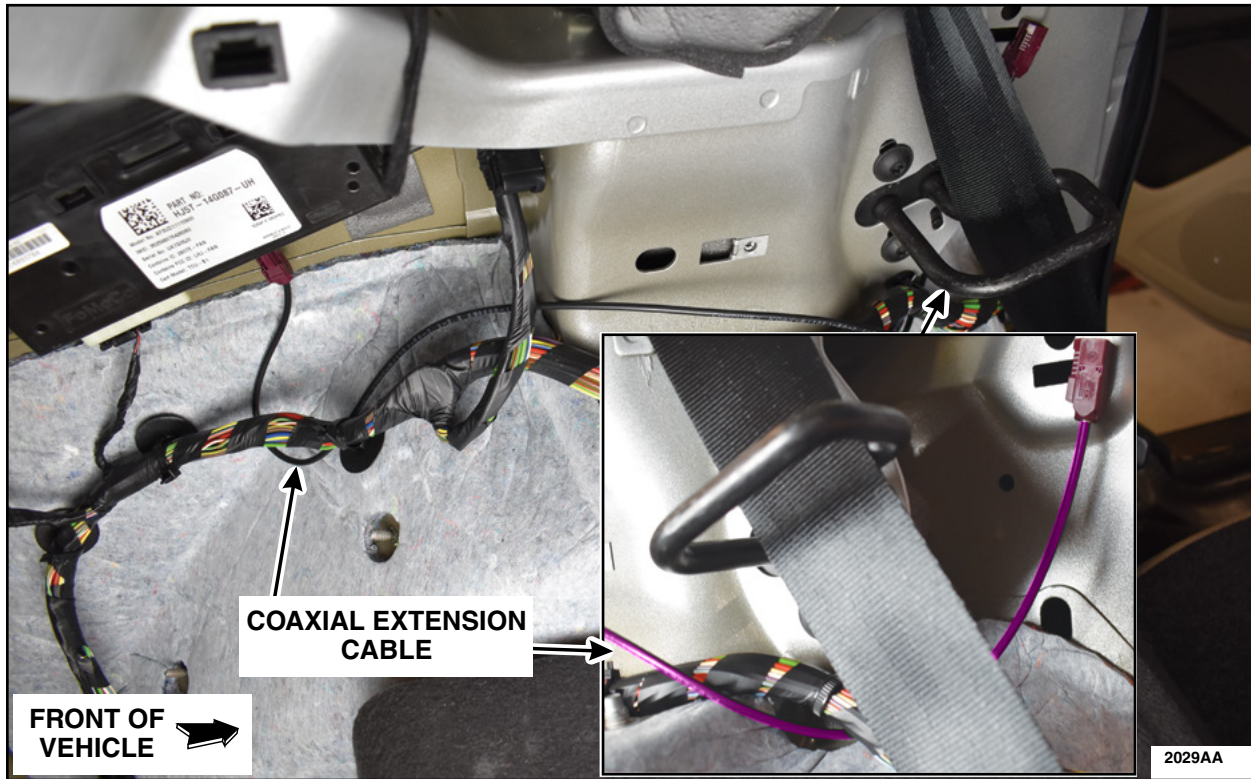

FIGURE 13
14. Route the coaxial extension cable along the body wiring harness until you reach the seat belt. Pass the coax cable extension behind the body wiring harness. See Figure 13.